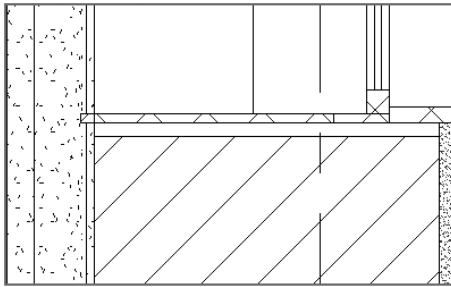

FIGURE 11.7 The completed sketch
8. Click the green check to complete the sketch. The finished sill looks like Figure 11.7.